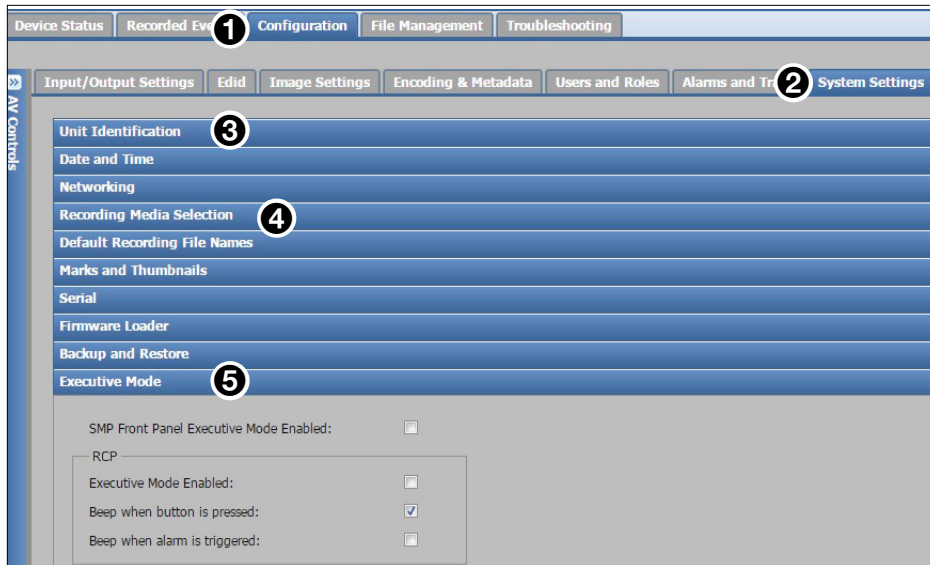

Figure 10. SMP Web Page
2. To confirm that the RCP 101 is connected to the SMP, click **Configuration** (figure 10, **1**, on the following page), **System Settings** (**2**), and **Unit Identification** (**3**).